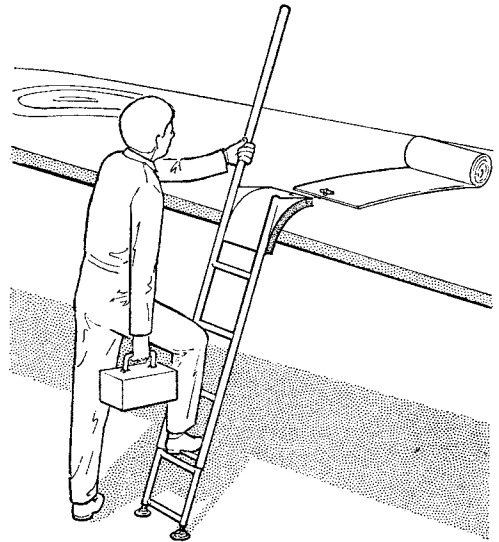
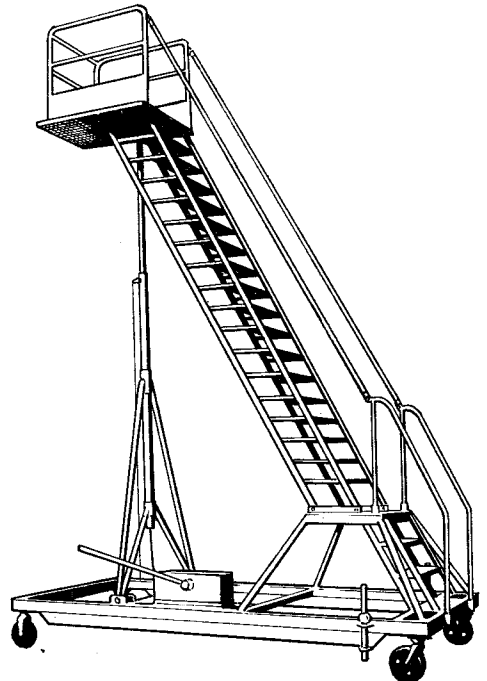

Fig 3 Aircraft servicing ladder small
Fig 7 Giraffe ladder
10. To gain working access to aircraft servicing points, special steps and ladders are often needed. These range from simple steps, like household steps, to large hydraulically-operated mobile aircraft entry steps. Ladders range from simple access ladders such as the 'Aircraft servicing ladder small' (Fig 3), to the complex arrangements of the 'Giraffe' series of aircraft servicing ladders (Fig 7) which, hydraulically-operated, give a working platform height over 35 ft (10.7m) and require the user to wear a safety harness that is to be firmly attached to a strong part of the structure. These items of ground support equipment listed in AP1086, AP4306A and described in AP1464G are, because of the possible risk of injury to personnel, class 2 items although some of the simpler ladders with no moving parts have been down-graded to class 3.
18. The 'Giraffe' range of aircraft servicing ladders (Fig 7) are hydraulically adjusted for height and overhang. The smaller unit has a single ladder with a work platform at the top. The ladder is pivoted at its base and supported under the work platform by the height-adjusting hydraulic ram.